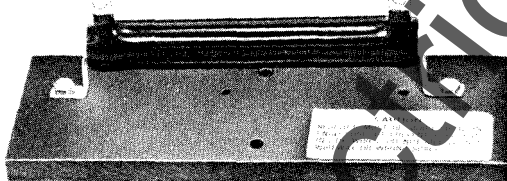
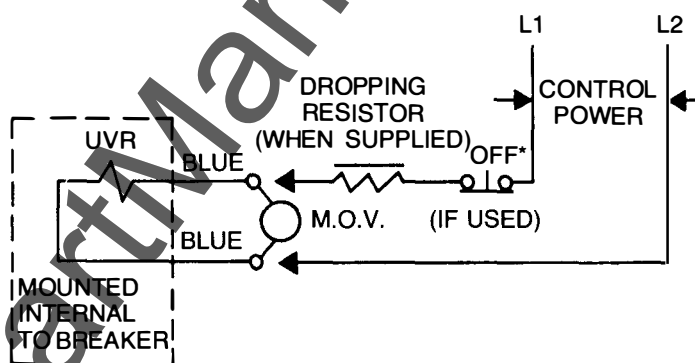

Figure 32.
Figure 33. Wiring Diagram
12. Mount the dropping resistor (when supplied) and M.O.V. (Fig. 32). Wire as shown in Fig. 33.